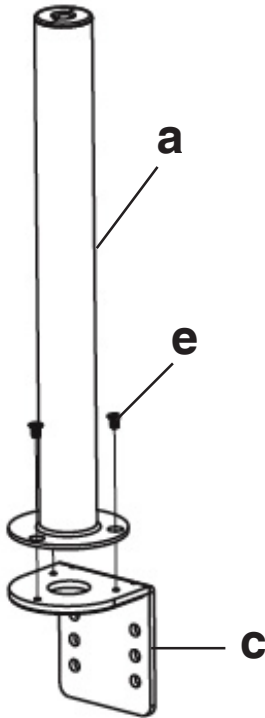

Figure 1
1. Install the C-Clamp Brace (c) to the Tube Support (a) using 3 C-Clamp Brace Bolts (e), see Figure 1.